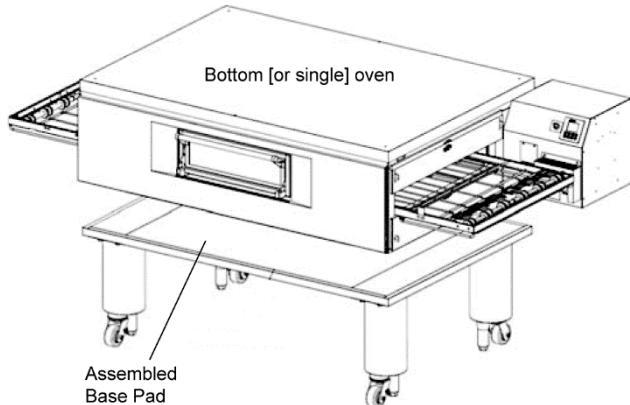

Figure 16. Base Pad Installation
3. Orient the base pad assembly such that the restraining clip is in the rear. Install the lower oven cavity onto the base pad. See Figure 16.